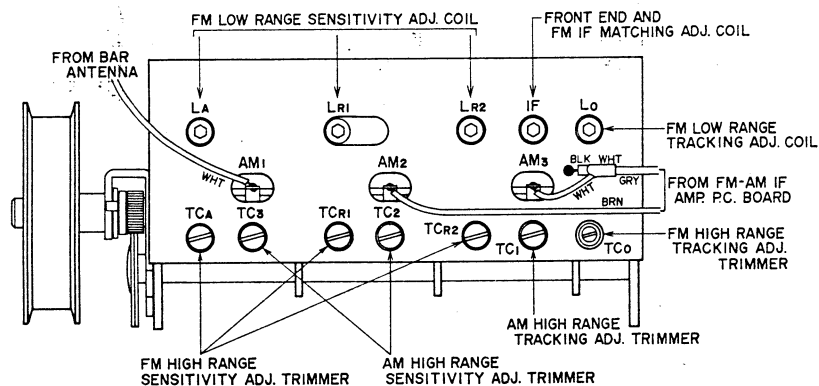

Fig. 18
- 4) Adjust Core Lo of Front End (Fig. 18) until the distortion meter level is maximum and the distortion factor is minimum. (Refer to Chart 4)
- 6) Adjust timmer condenser TCo of Front End (Fig. 18) until the distortion meter level is maximum and the distortion factor is minimum. (Refer to Chart 4)
- 5) Adjust the cores of Front End (Fig. 18) until the distortion meter level is maximum and the distortion factor is minimum. (Refer to Chart 5)
- 8) Adjust Trimmer Condensers of Front End (Fig. 18) until the distortion meter level is maximum and the distortion factor is minimum. (Refer to Chart 5)
- 11) Adjust the upper and lower cores of IF Coil in Front End (Fig. 18) and the lower core of FM-AM IF P.C. Board Discriminator Coil until the distortion meter level is maximum and the distortion factor is minimum. (Refer to Chart 5)
- 6) Adjust Front End Trimmer Condenser in Fig. 18 until the distortion meter level is maximum and the distortion factor is minimum. (Refer to Chart 7)
- 8) Adjust Front End trimmer condensers in Fig. 18 until the distortion meter level is maximum and the distortion factor is minimum. (Refer to Chart 8)